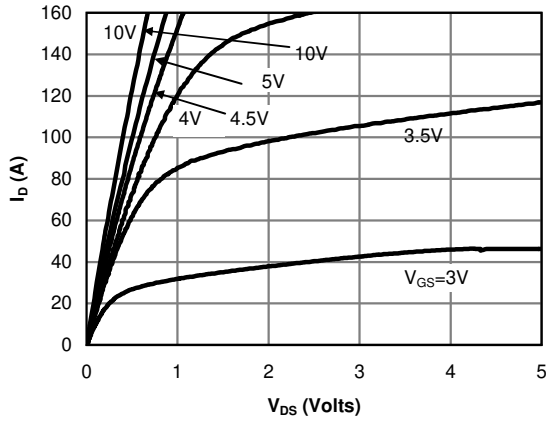

Fig 1: On-Region Characteristics (Note E)
E. The static characteristics in Figures 1 to 6 are obtained using <30Q_s pulses, duty cycle 0.5% max.